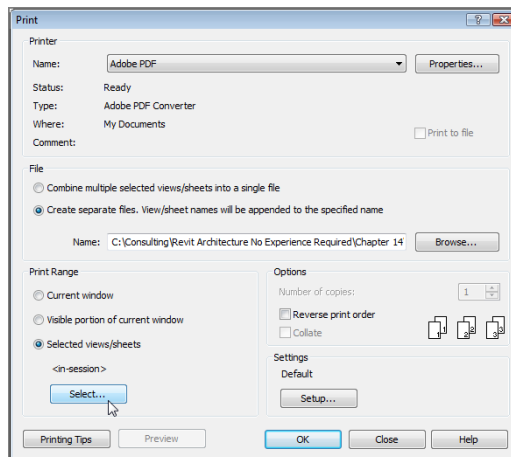

FIGURE 14.33: Choosing the options to print the drawings
5. Click the Select button, as shown at the lower left of Figure 14.33.